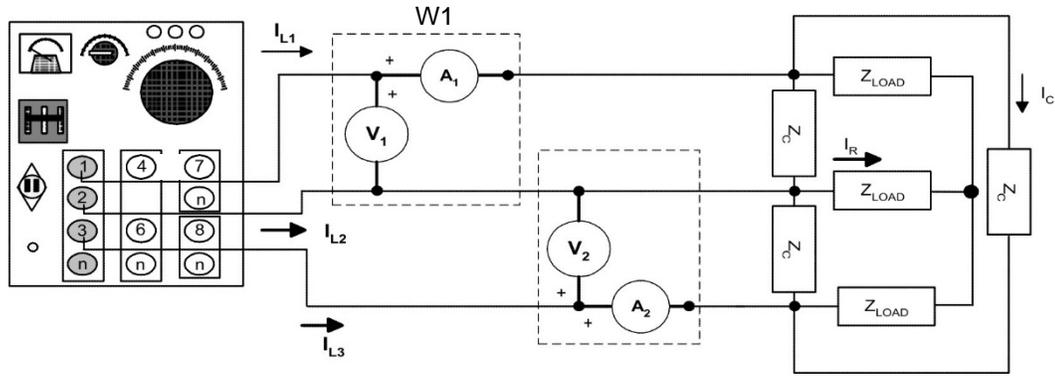

FIGURE 3.5
- 4) Place a delta connected capacitive load ($Z_C = 100 \Omega$) in parallel to the previous resistive load as shown in Figure 3.5. However, the load is now connected to the variable ac output 4, 5, and 6 and the line-to-line voltage is adjusted to 120Vac. Determine: